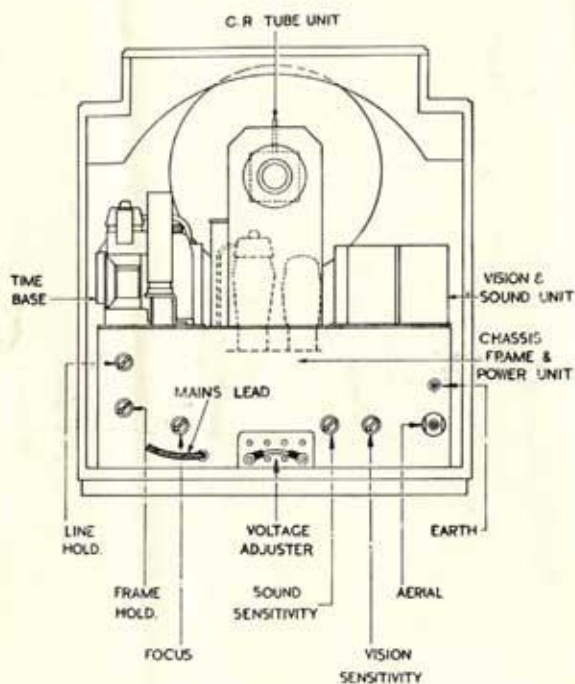

Fig. 4
| (3) LINE HOLD CONTROL | (see Fig. 4) | } Minor controls for occasional use. |
| (4) FRAME HOLD " | (see Fig. 4) | |
| (5) VISION SENSITIVITY CONTROL | (see Fig. 4) | |
| (6) FOCUS CONTROL | (see Fig. 4) | |
| (7) SOUND SENSITIVITY CONTROL | (see Fig. 4) | |
- (2) This Pye S15 Television Receiver is intended for use on Alternating Current of the voltage and frequency engraved on the voltage adjustor plate (see Fig. 4).
- (3) The mains input adjustor tag will be found on the mains transformer (see Fig. 4). It will be noted that a brass screw on a flexible lead is provided which can be connected to the socket corresponding to the supply voltage. If this screw is not already in the correct socket, remove it and reinsert it in the correct one. Be sure to tighten the screw firmly.
- (4) A mains lead complete with a wall socket plug is provided and this plug should be connected to a suitable power point or lighting point. If the power point or lighting point concerned is fitted with a switch, see that this is in the off position until the installation is finally completed.
- (5) Connect a good earth to the Receiver and plug in the aerial connector. Then replace the back cover.